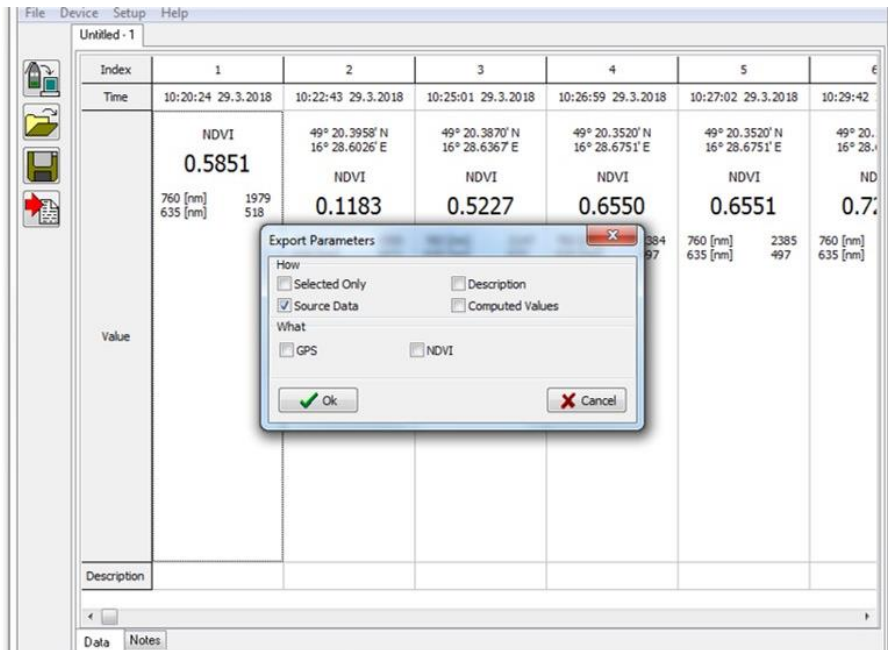

Fig. 21 Data export.
4. To **export** data from the FluorPen software select **File > Export** or **Export** icon. Select data type to export (NDVI or PRI), see Fig. 21.